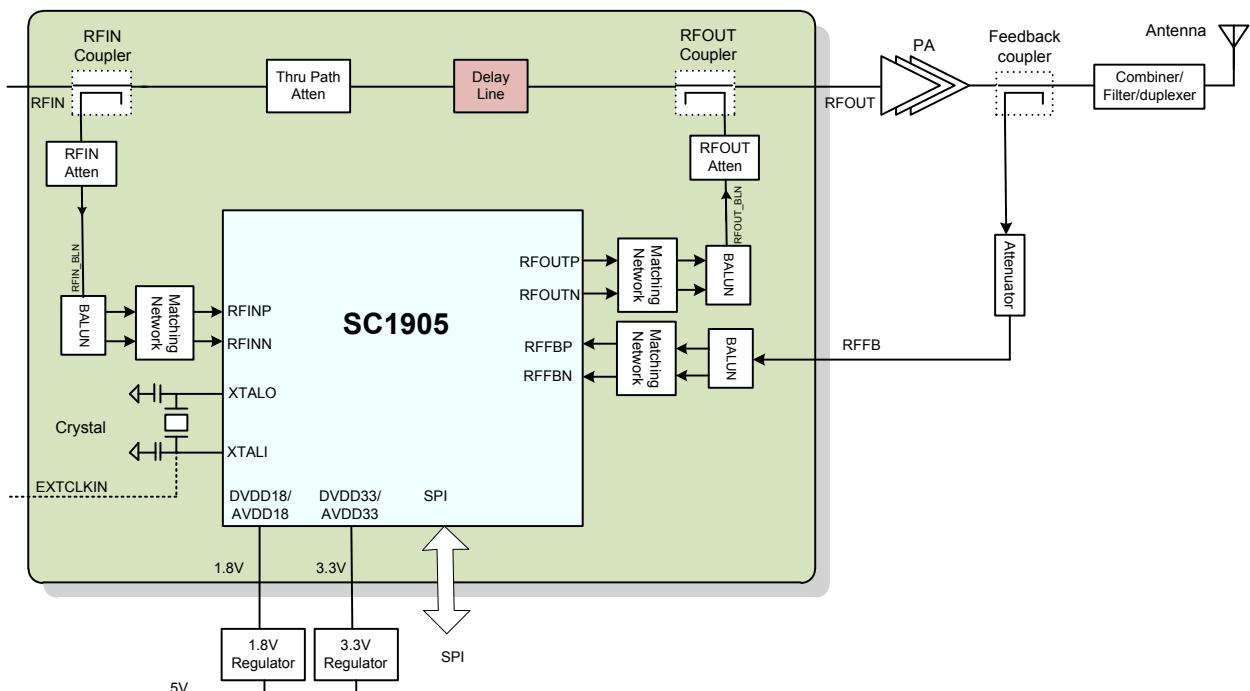
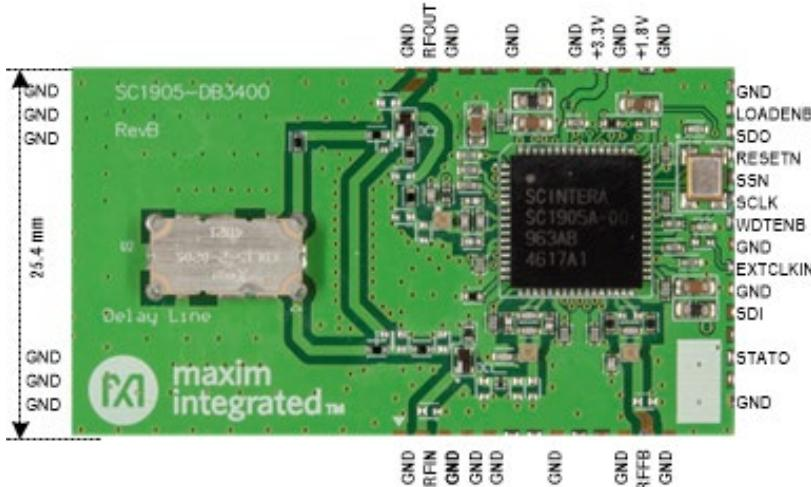

Figure 2. SC1905 reference design block diagram.
Figure 3. SC1905 reference daughter board photograph and pin configuration.
The SC1905 reference design contains all circuitry necessary for linearization and accurate power detection, including power-supply regulation from 5V DC. The PCB uses a single-side four-layer FR4 design, ideally suited for cost sensitive RF applications. The reference board block diagram is shown in **Figure 2** for SC1905. The pin configuration and photograph are shown in **Figure 3**.
- a. *Although not represented in Figure 3, it is highly recommended to use a connector to upgrade firmware with the GUI during the system integration and SPI interface bring up. This connector must have the following signals: SDI, SDO, SSN, SCLK, RESETN, WDTEN, GND, and LOADENB.*